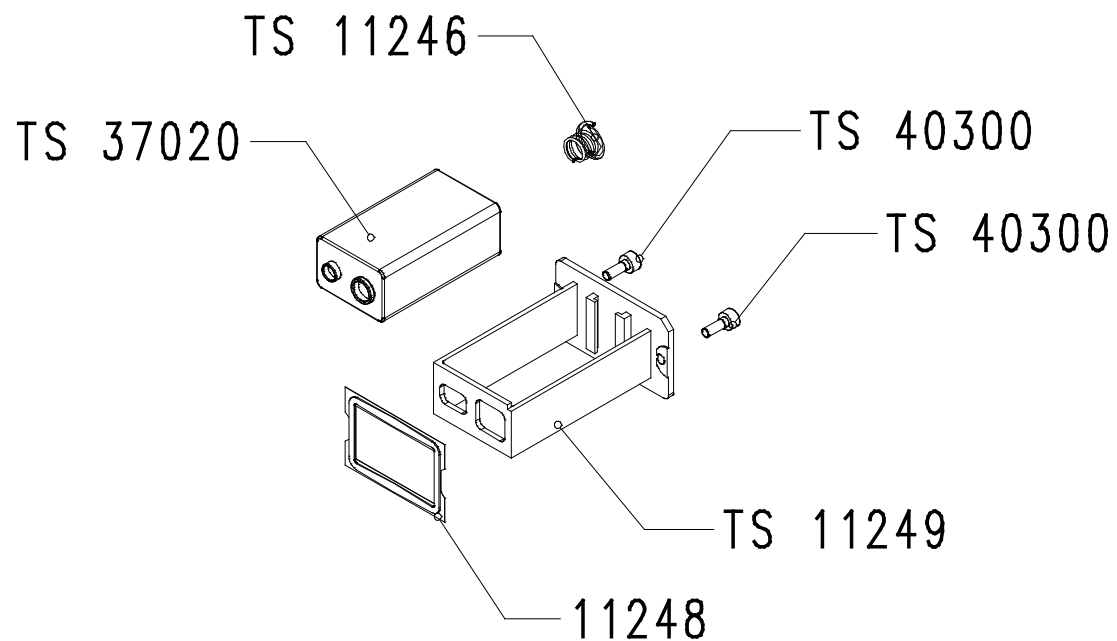

Figure 12-3: battery holder assembly TS 10189, details
- Figure 12-3: battery holder assembly TS 10189, details